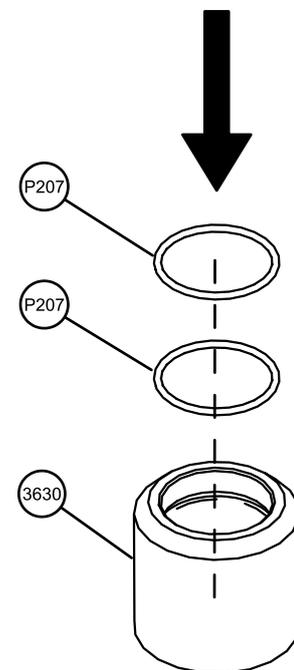

Fig. 13.2
- Fig. 13.2 Fit O-rings (P207) into the internal grooves in the top stack collar (3630)